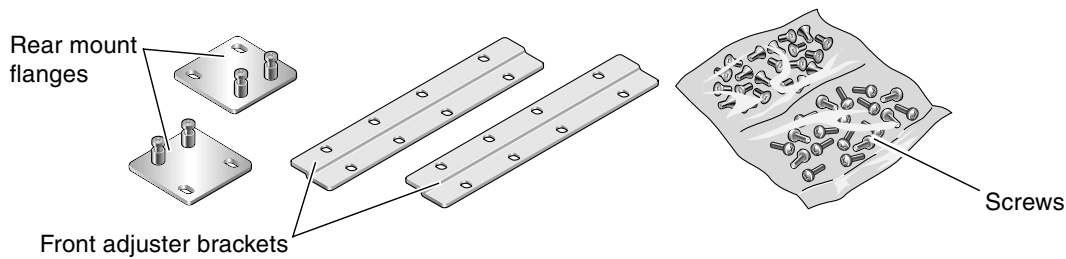

FIGURE 3-17 Contents of the Hardmount 600 mm 4-Post Kit
6. Get the 600 mm front adjuster brackets from the rack kit (FIGURE 3-17).
10. Get the two rear mount flanges from the rack kit (FIGURE 3-17).